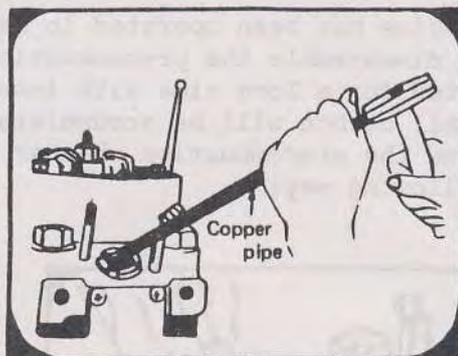

Fig. 6
- (c) Take off pre-combustion chamber gland by turning it counter-clockwise, applying copper pipe or wooden piece, as shown in Fig. 6.